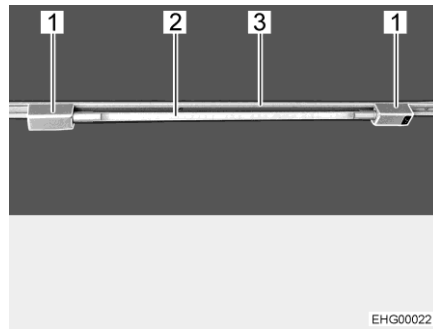

Fig. 30 Fluorescent tube
- Insert both brackets (Fig. 30,1) into the rail (Fig. 30,3). In order to do this, turn bracket through 90°.
- Plug lamp body (Fig. 30,2) into one of the brackets.
- Turn lamp body handle (Fig. 30,2) until the desired lighting effect is achieved.